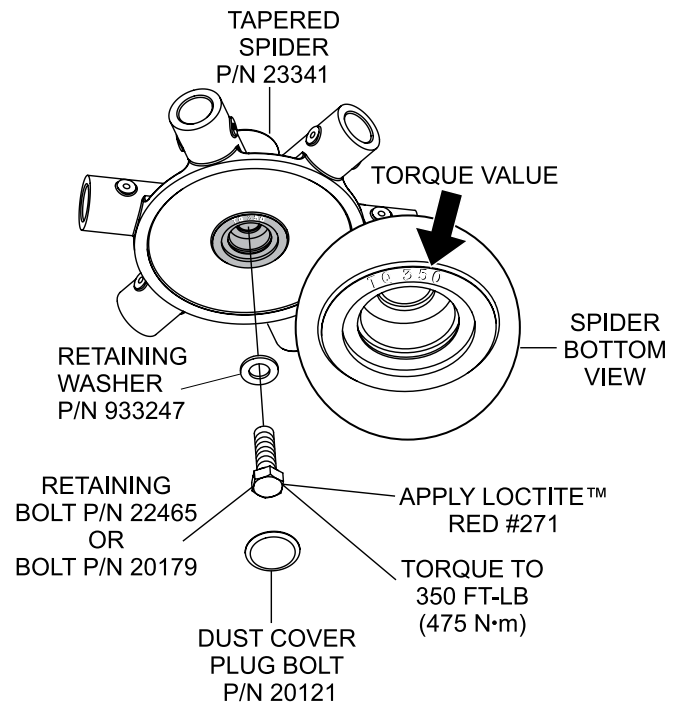

Figure 7. Tapered Spider
9. Apply Loctite™ 271 (RED) to the selected spider retaining bolt P/N 22465 or P/N 20179 (Figure 7). Also apply RED Loctite™ to the female threads on the hydraulic motor shaft.